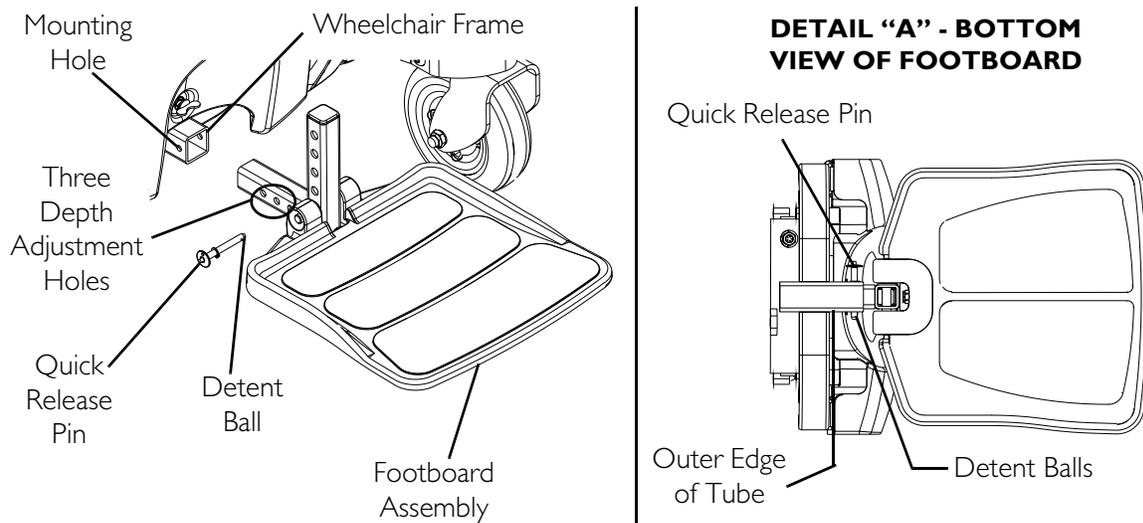

FIGURE 8.3 Adjusting the Footboard Assembly - Depth
NOTE: For this procedure, refer to FIGURE 8.3.
3. Install the quick release pin. Make sure the detent balls of the quick release pin are fully released and past the outer edge of the tube (Detail “A” of FIGURE 8.3).